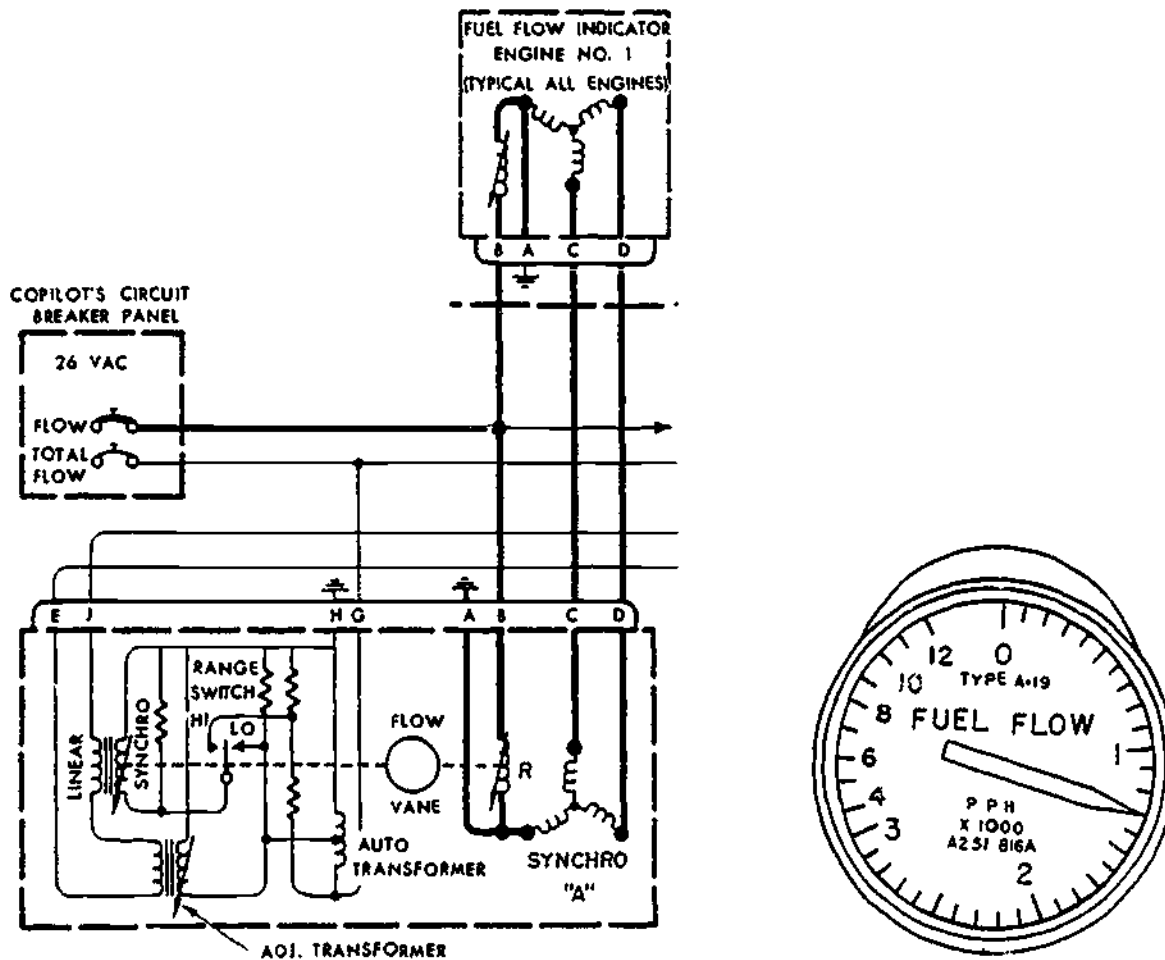

Figure 16.
The individual indicator synchro is connected electrically to the synchro "A" in the transmitter. There is a transmitter and indicator for each engine, on multi-engine aircraft, see figure 15. This figure shows a single engine schematic that is typical of ALL engines. As the movable vane is displaced by fuel, the rotor "R" of the synchro transmitter is moved. This sends an electrical signal to the individual indicator stators which cause the magnetized rotor in the indicator to align with the transmitter rotor. The rotor of the indicator synchro turns the pointer, indicating the amount of fuel flow in pounds per hour, see figure 16. The rotor of the individual synchro is a two pole electromagnet similar to the one in the transmitter synchro.
3. The individual indicator in figure 16 is indicating a fuel flow of